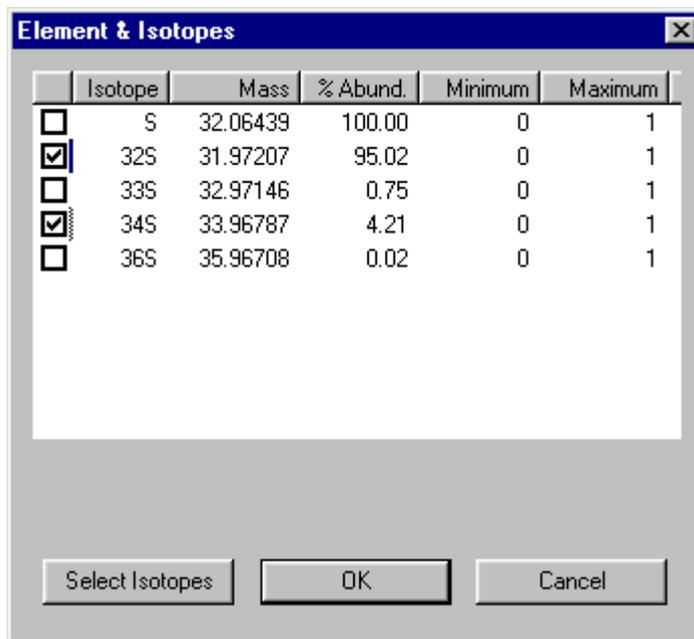

Figure 4.49 Isotopes dialog
2. Click with the left mouse button on the required element to display the **Elements & Isotopes** dialog (see **Figure 4.49**).